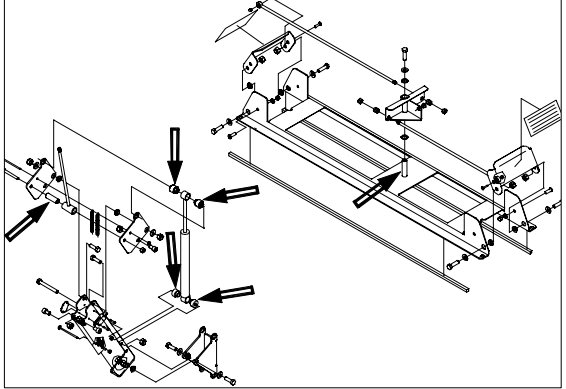

Figure 2.2D
- \_\_\_ The damper lower spacer sleeves, the pivot shaft of the CPR support, and the activation rod pivot sleeve (see fig. 2.2D, page 11), all from the CPR mechanism.